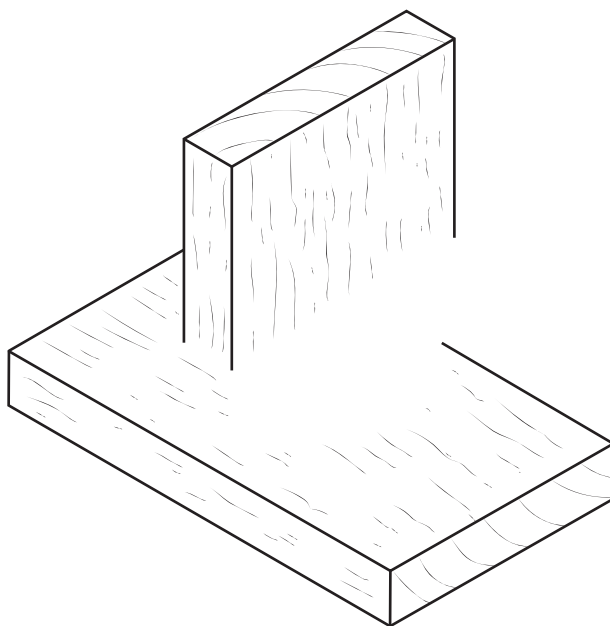

Fig. 8.1
- 8 Complete Fig. 8.1 to show an exploded view of a stopped housing joint.